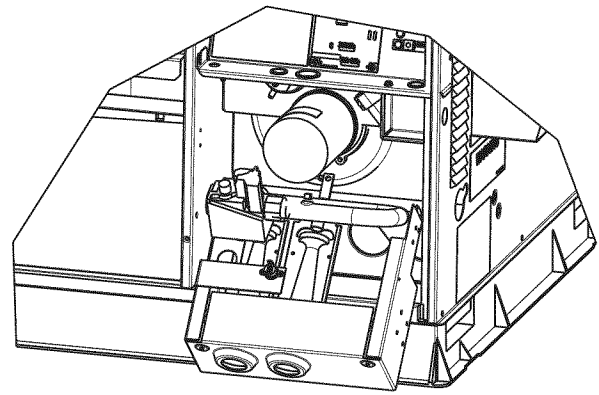

Fig. 21 - Burner Rack Removed
3. Slide the assembly out of the unit. (See Fig. 21). Clean the blower wheel. If additional cleaning is required, continue with Steps 4 and 5.